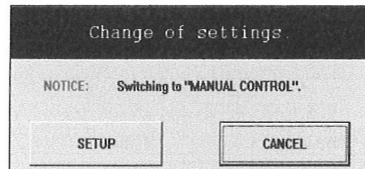

Fig.24
④ After filling in all the fields required at ③, click on "SETUP" button. And a message box as shown in Fig. 24 appears in response.
⑤ Clicking on "SETUP" at this point changes the previous settings to the new settings just entered. However, the flowmeter output also changes with the changes in settings made. For safety's sake, therefore, in applications where the flowmeter output controls valves or other devices, it is suggested that the affected control loop be switched to manual so as to keep the control loop free from the influence of flowmeter output.